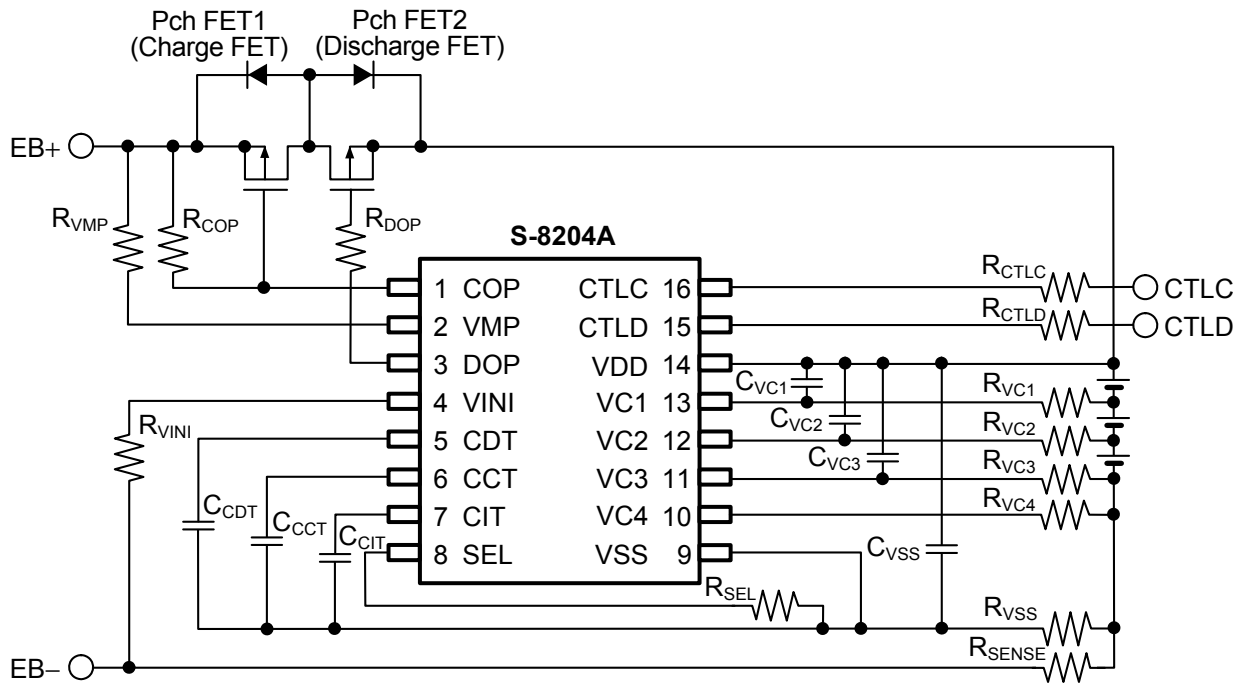
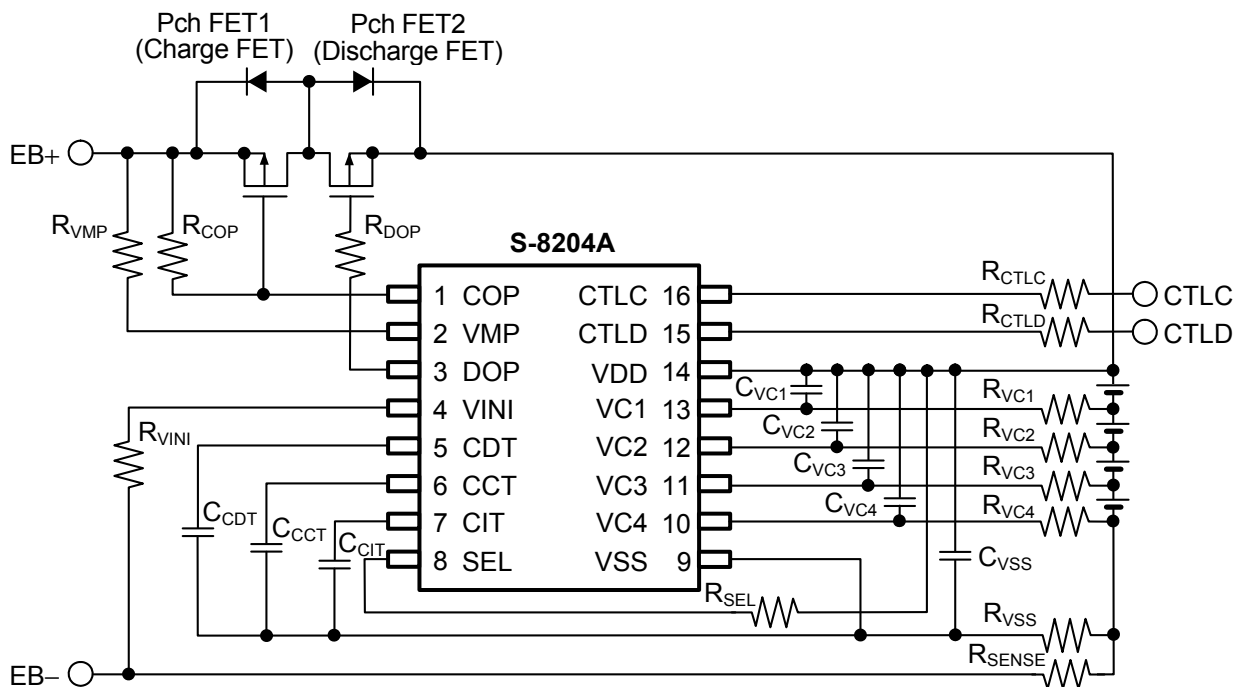

Figure 12
Figure 13
■ Timing Chart (Circuits in Figure 12, Figure 13)
Table 10 Constants for External Components (Circuits in Figure 12, Figure 13)